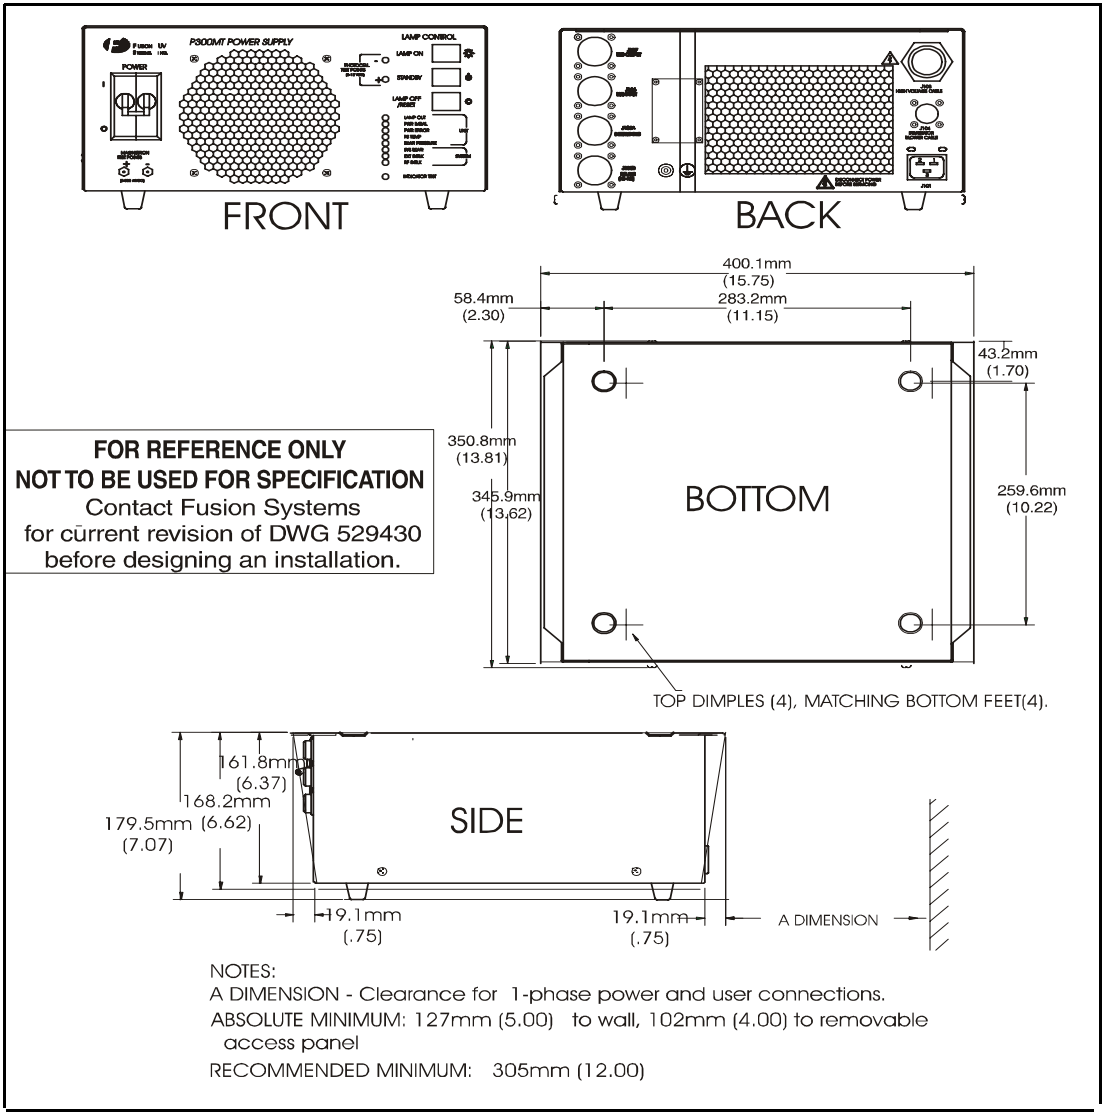

Figure 51. P300MT Power Supply Dimensions and Clearances
- Figure 51, P300MT power supply dimensions and clearances